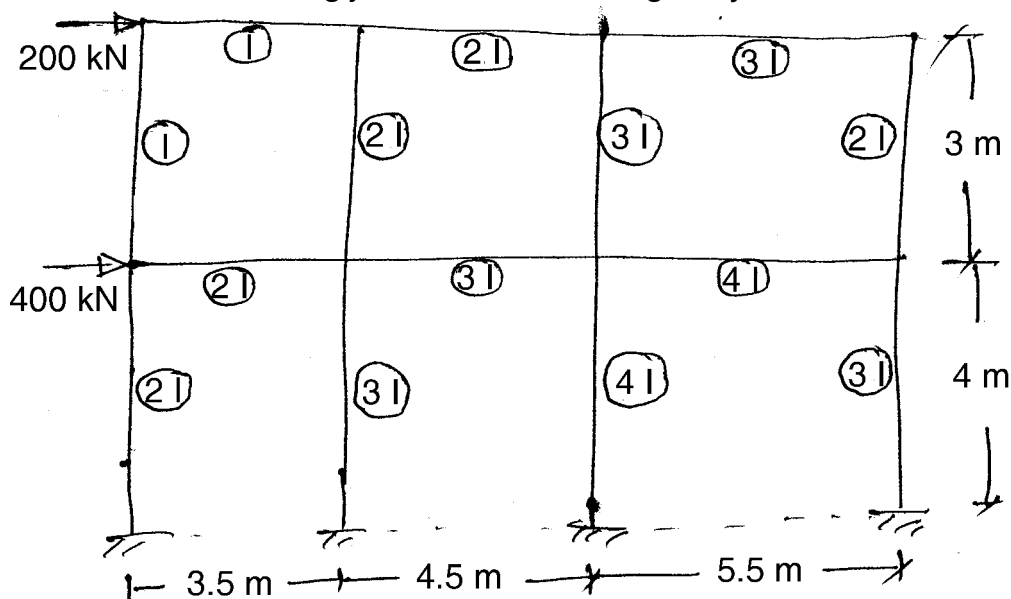

Figure 1
2. Determine the shears and moments in columns and beams of a building frame with moment resisting joints as shown in fig. 1 by factor method :